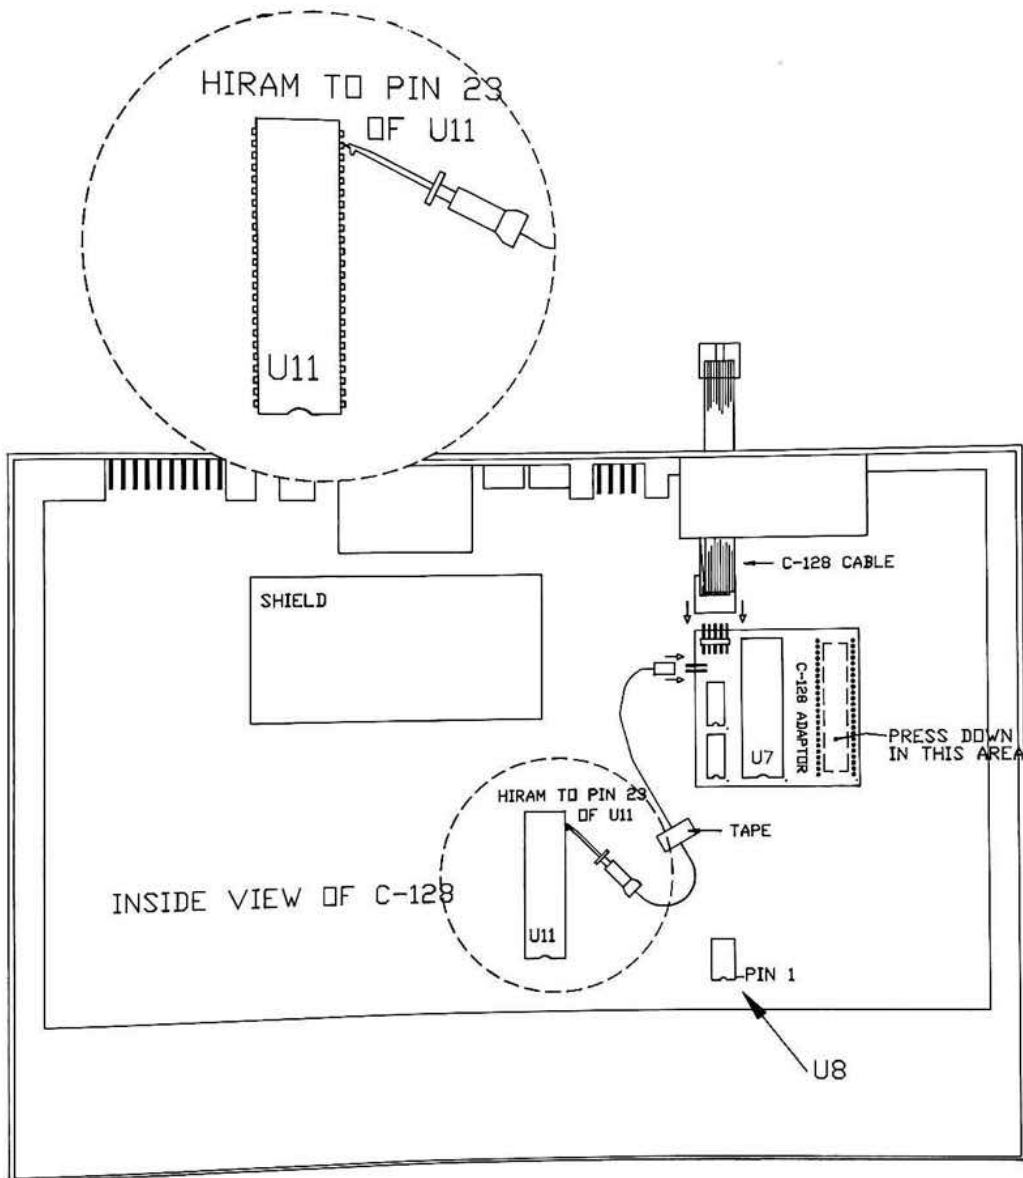

FIG. 8
Step 6 - Install the C-128 ADAPTOR into the socket vacated in Step 4 as shown in FIG 8. CAUTION: Make sure pins on the bottom of adaptor board are in their proper positions before firmly seating into place. Press down firmly in the area shown to firmly seat the ADAPTOR board in place.
Step 7 - Refer to FIG 8 and locate HIRAM CABLE. Clip this cable to PIN 23 of U11 as shown and secure with a piece of scotch tape. Be sure that the clip is not shorting to any of the adjacent pins of Chip U11. Plug the remaining end onto plug P2 of the C-128 ADAPTOR board as shown. (NOTE: The CAEC CABLE is not used in the C-128 installation)
Step 8 - Again refer to FIG 8 and locate the C-128 cable and take either one of the ends and position it so the flat ribbon is coming out of the top side of the connector. Now push this connector onto plug P1 of the C-128 ADAPTOR board as shown making sure all ten pins are properly entering each hole on the socket.